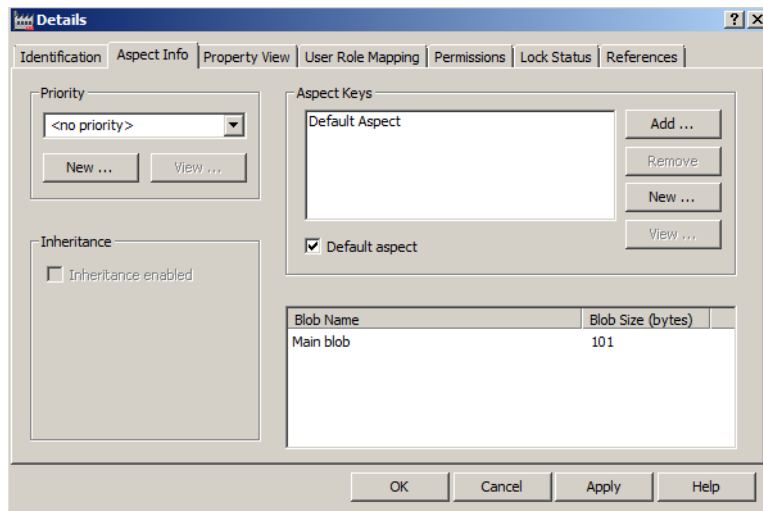

Figure 132. Aspect Info Tab
3. Select the **Default aspect** check box. See Figure 132.
2. Select the **Aspect Info** tab and click **New** in **Aspect Keys**. See Figure 132.